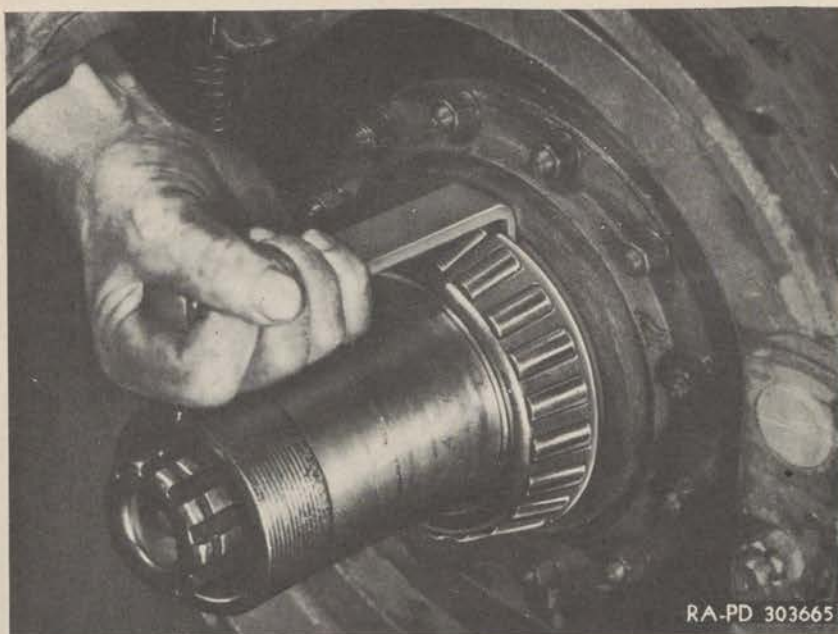

Figure 137—Removing Inner Wheel Bearing Cone
(5) **REMOVE INNER WHEEL BEARING.** Using an offset screwdriver, pry the cone loose (fig. 137).